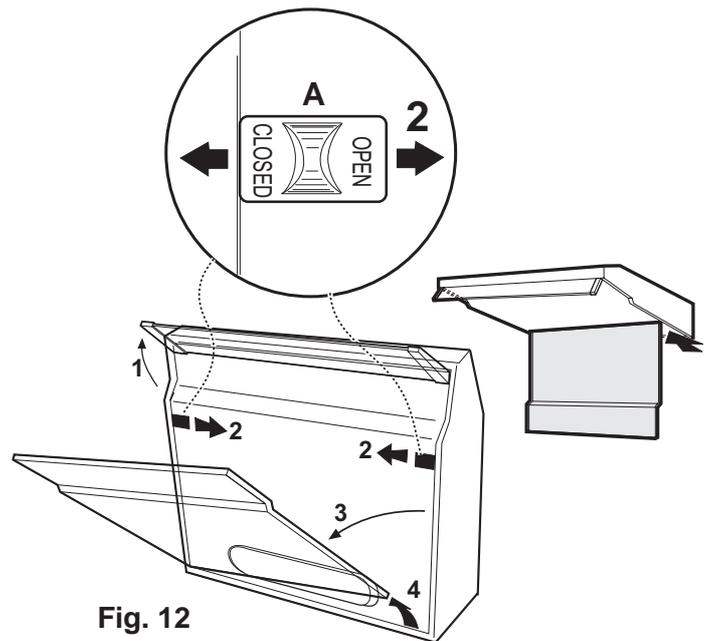

Fig. 12
- Open the suction grid (Fig. 12).
- Open the latch and rotate the grid downwards (Fig. 12).
- Open the grid (Fig. 12).